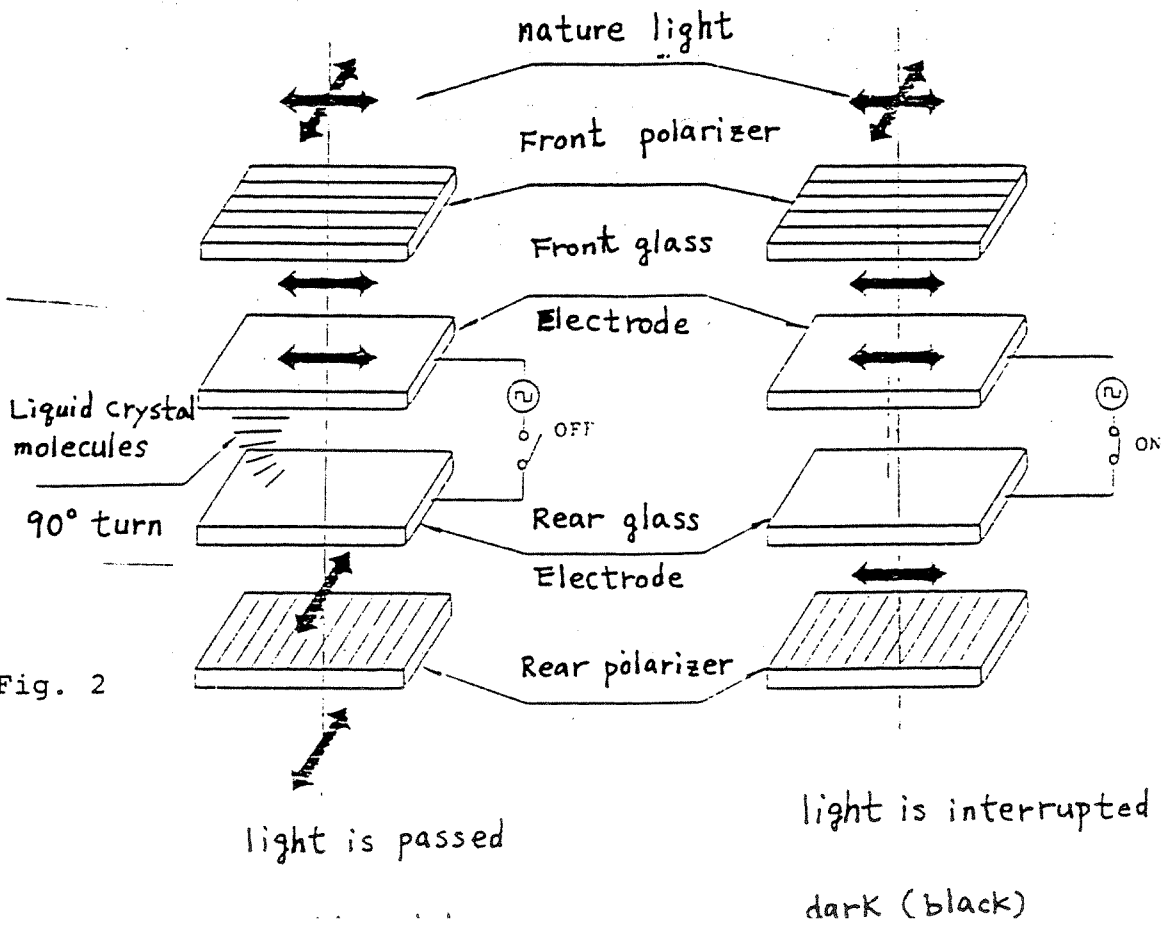

Fig. 2
The operation theory is shown in Fig. 2.
- (1) The optical activity (twisting) of light is used, and the liquid-crystal display element is sandwiched between the two polarization plates. The polarized axes of the upper and lower plates are placed at right angles to each other.
- (2) As shown in Fig. 2 (a), if voltage is not applied, the liquid-crystal molecules between the upper and lower plates twist 90° to distribute light. This results in a 90° optical movement of the light.
- (3) In other words, when voltage is not applied, light is transmitted, and when voltage is applied, light is interrupted.